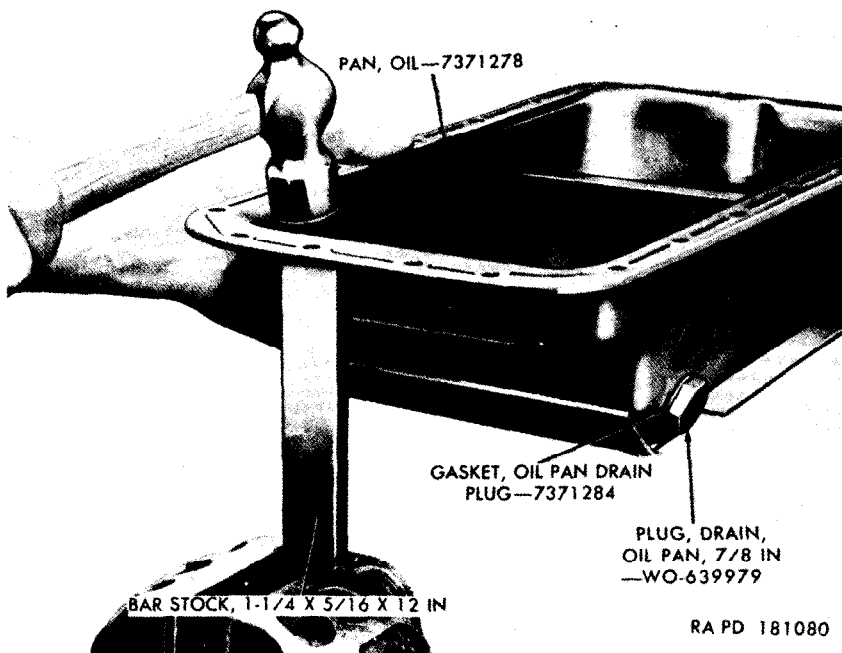

Figure 69. Straightening bolting flange of oil pan.
- (1) Replace the crankshaft front oil seal.
- (2) **Replace** the cover if the cover is dented or warped out of shape.
- (3) **Examine** the bolting flange of the cover for distortion or stretching of the metal around the attaching bolt holes. If necessary, smooth out the rough areas of the flange following the procedures given in paragraph 89*b* and shown in figure 69.
a. Disassembly and Assembly. Remove the oil pan drain plug (fig. 69) from the side of the oil pan. Replace the oil pan drain plug gasket. Install the $\frac{7}{8}$ -inch drain plug.
12 (fig. 69) in a bench vise and, using the bar stock as an anvil, flatten any distorted areas to a smooth level surface. Replace the oil pan if it is deeply dented, distorted, or out of shape.